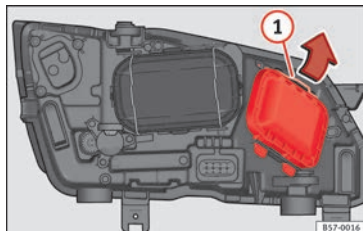

Fig. 106 In the engine compartment: remove the lid.
2. Move the loop » **Fig. 106** ① in the direction of the arrow and remove the cover.
2. Move the loop » Fig. 106 ① in the direction of the arrow and remove the cover.